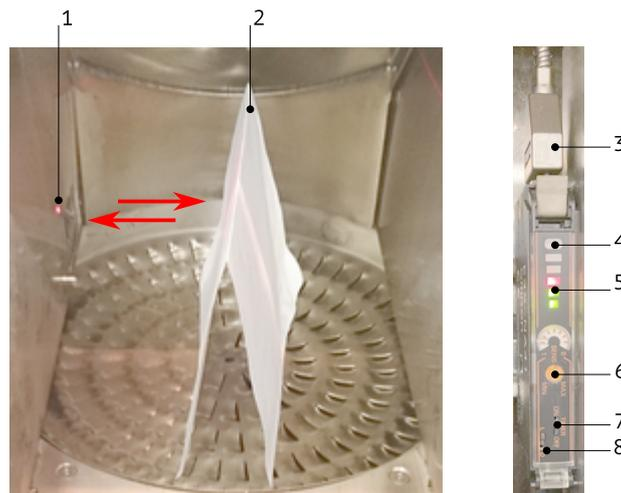

Figure 9
1. Locate fiber amplifier in electric panel, see Fig. 9.
2. Ensure the fiber connector (3) is properly connected to the amplifier.
3. Set the timer switch (7) to OFF.
4. Set the mode selector (8) to L.
5. Put a folded sheet of white paper in the chamber, so the light beam from the fiber head (1) reflected by the paper screen and then returns back to the amplifier.